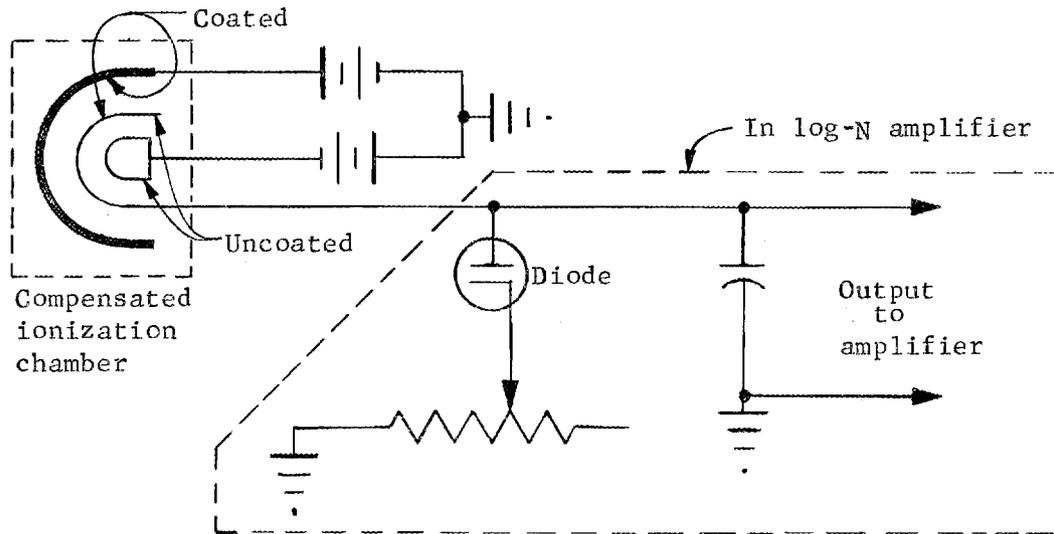

Fig. V-51. Log-N Amplifier Input Circuit
74. Figure V-51 shows the CIC and the input circuit to its electronics. The diode in the circuit converts the chamber current into a voltage proportional to the logarithm of the current.